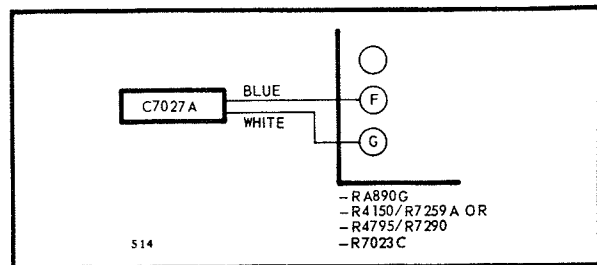

FIG. 4—C7027A TO R4150, R4795, RA890G OR R7023C WIRING DIAGRAM.
1. Connect C7027A to a R4150, R4795 or RA890G as shown in Fig. 4.